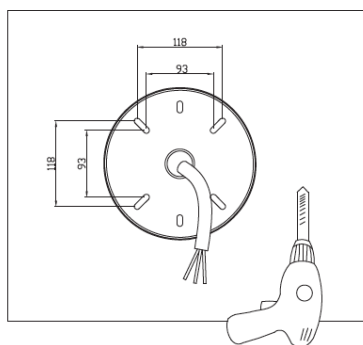

Figure 5
Step 3: Drill holes on the wall according to the locating plate (Figure 5) ;